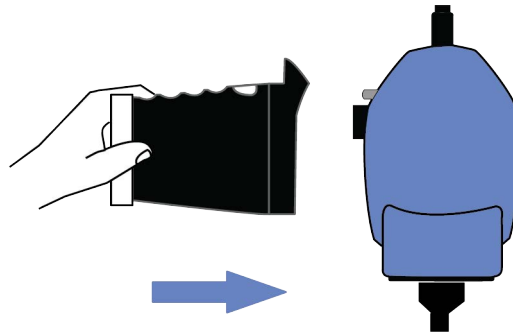

Figure 11-6 Attach calibration box.
- Attach the calibration box using the integrated magnets, see Figure 11-6. Then click *Next*.